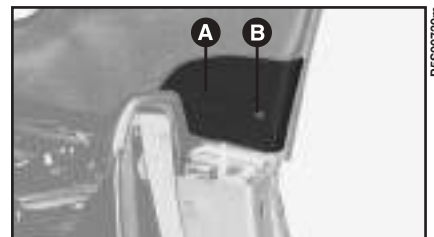

fig. 66
2) Remove the side panels **A-fig. 66** from the hard top's upholstery by undoing fixing screws **B**.
7) Refit side panels **A-fig. 66** over the hard top upholstery and fix them with screws **B**.